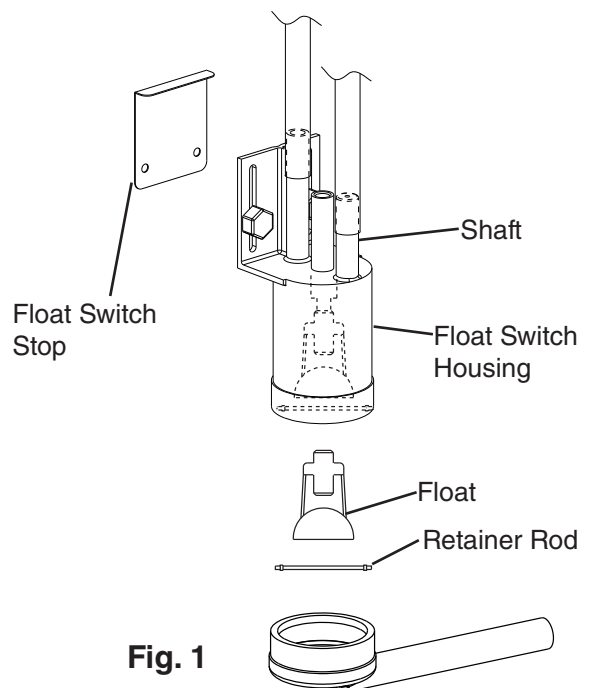

Fig. 1
- 7) Remove FS assembly and FS stop. See Fig. 1.